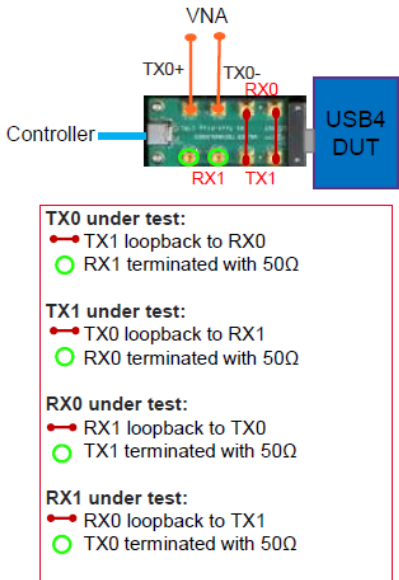

Figure 163 SMP test fixture - Tx/Rx lane switching
- 8 In case of SMP test fixture, Tx/Rx lane under test can be switched as shown in Figure 163.